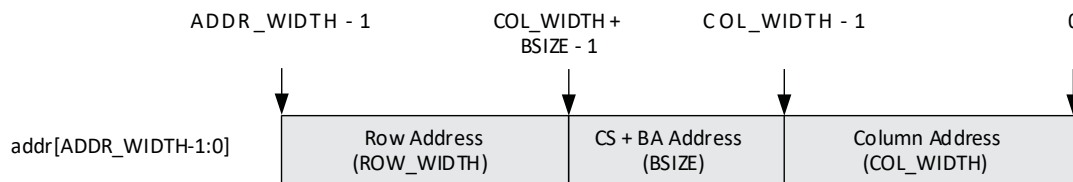

Figure 2.10. Local-to-Memory Address Mapping for Memory Access
Mapping local addresses to memory addresses is an important part of system design when implementing a memory controller function. You must know how the local address lines from the memory controller connect to those address lines from the memory because proper local-to-memory address mapping is crucial to meet system requirements in applications such as a video frame buffer controller. Even for other applications, careful address mapping is generally necessary to optimize system performance. On the memory side, the address (A), bank address (BA) and chip select (CS) inputs are used for addressing a memory device. You can obtain this information from a given data sheet. Figure 2.10 shows the local-to-memory address mapping of the Lattice DDR3 memory controller cores.